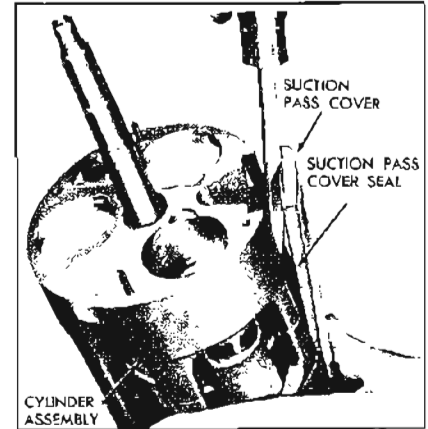

Figure 11-77—Removing Suction Pass Cover and Seal
13. Pry off suction pass cover and suction pass cover seal using screwdriver (see Figure 11-77) and discard seal.